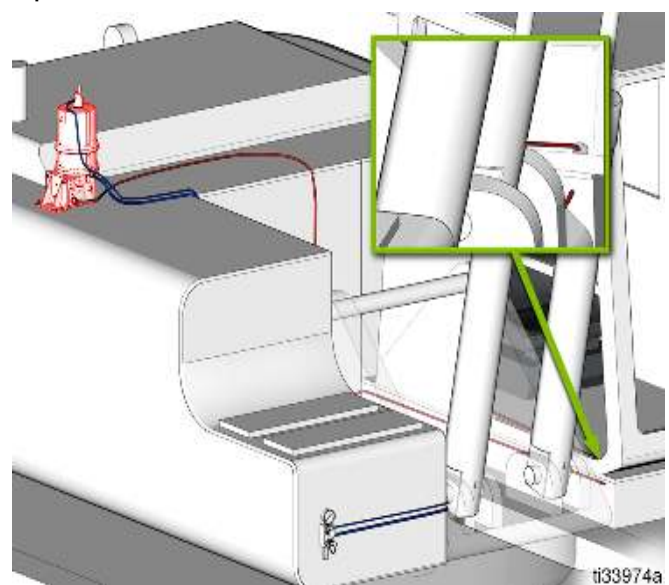

FIG. 15
- The deck plate that surrounds the cab is the preferred installation location (FIG. 15). The deck plate is a non-critical component and drilling through the deck plate is generally acceptable by most manufacturers. However, if this location is not acceptable due to durability or space constraints, identify an alternate location around the cab, such as below the ladder, in the engine compartment or on the frame.